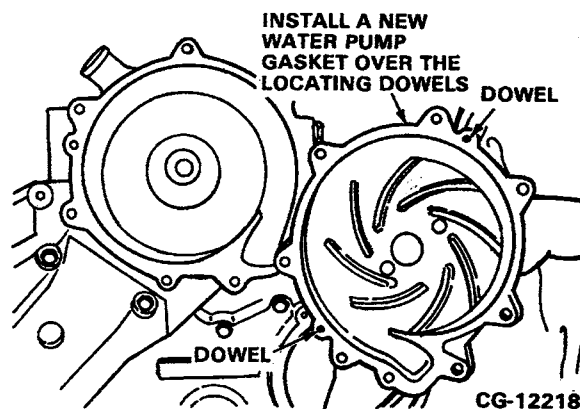

Figure 10.16. Align Gasket onto Water Pump Dowels
1. Using a new gasket, place the gasket over the water pump housing dowels. Refer to Figure 10.16.